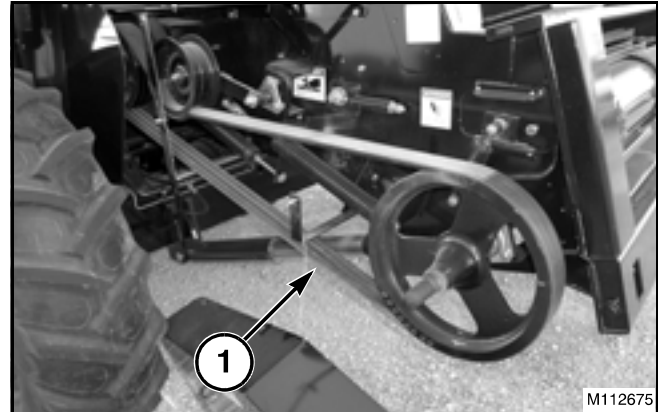

FIG. 6
FIG. 6: Fixed Speed Header Drive - Power flows from the fixed speed jackshaft through a belt (1) to the header drive countershaft that is mounted under the feeder housing.